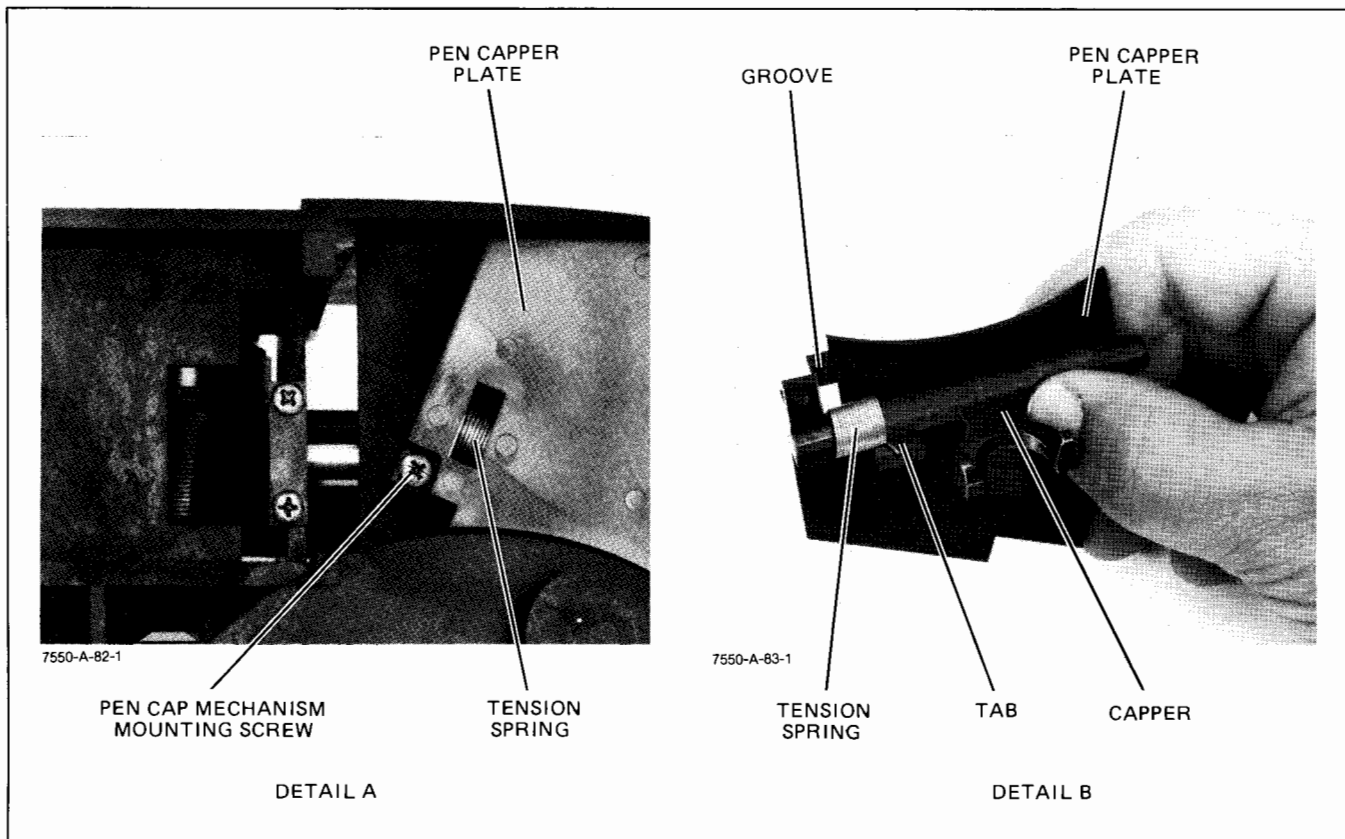

Figure 6-35. Pen Capping Mechanism Removal
- d. Invert the X,Y carriage assembly to access the pen capping mechanism mounting screw. See Figure 6-35, Detail A.
- f. When installing the pen capping mechanism, make sure that the tension spring is fully seated in the groove of the pen capper plate and beneath the tab on the capper. The spring should be seated around the extension on the capper and around the extension on the capper plate. See Figure 6-35, Detail B. Hold the capper against the capper plate while installing the mechanism. Insert the mounting screw.